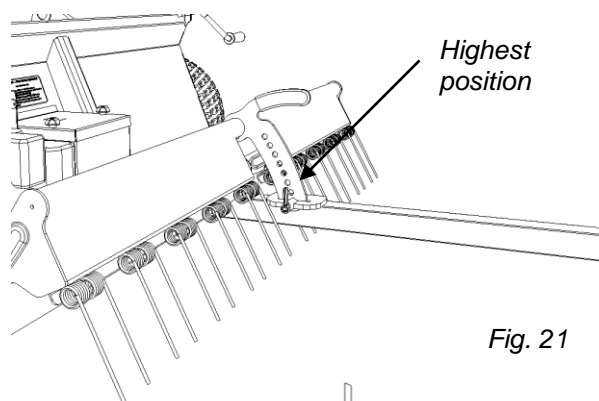

Fig. 21
1. Lock tine bar assembly into upper most position (shown in *Fig. 21*)